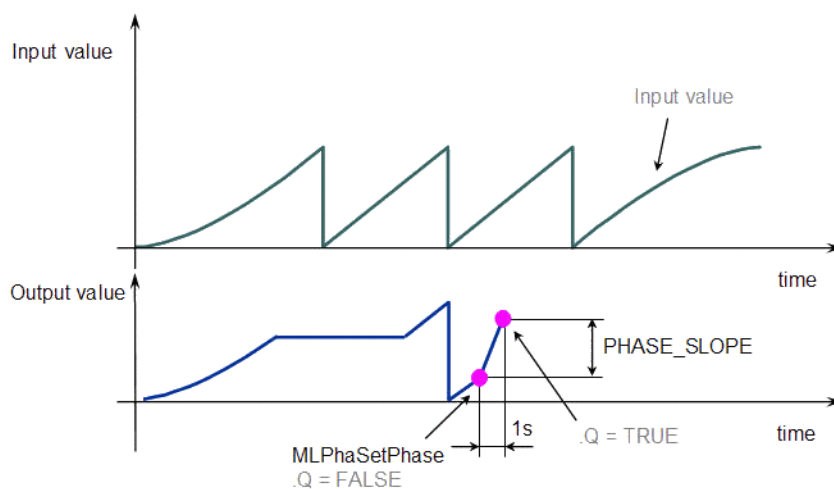

Figure 4-54: Changed Phase value
- Call "MLPhaWritePhase" (→ p. 529) function to modify the Phase value. (Figure 4-54)